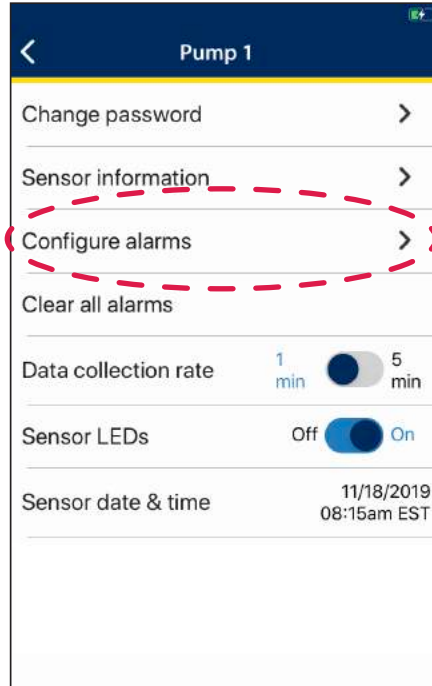

Figure 15
2. Select **Configure Alarms** (see figure 15).